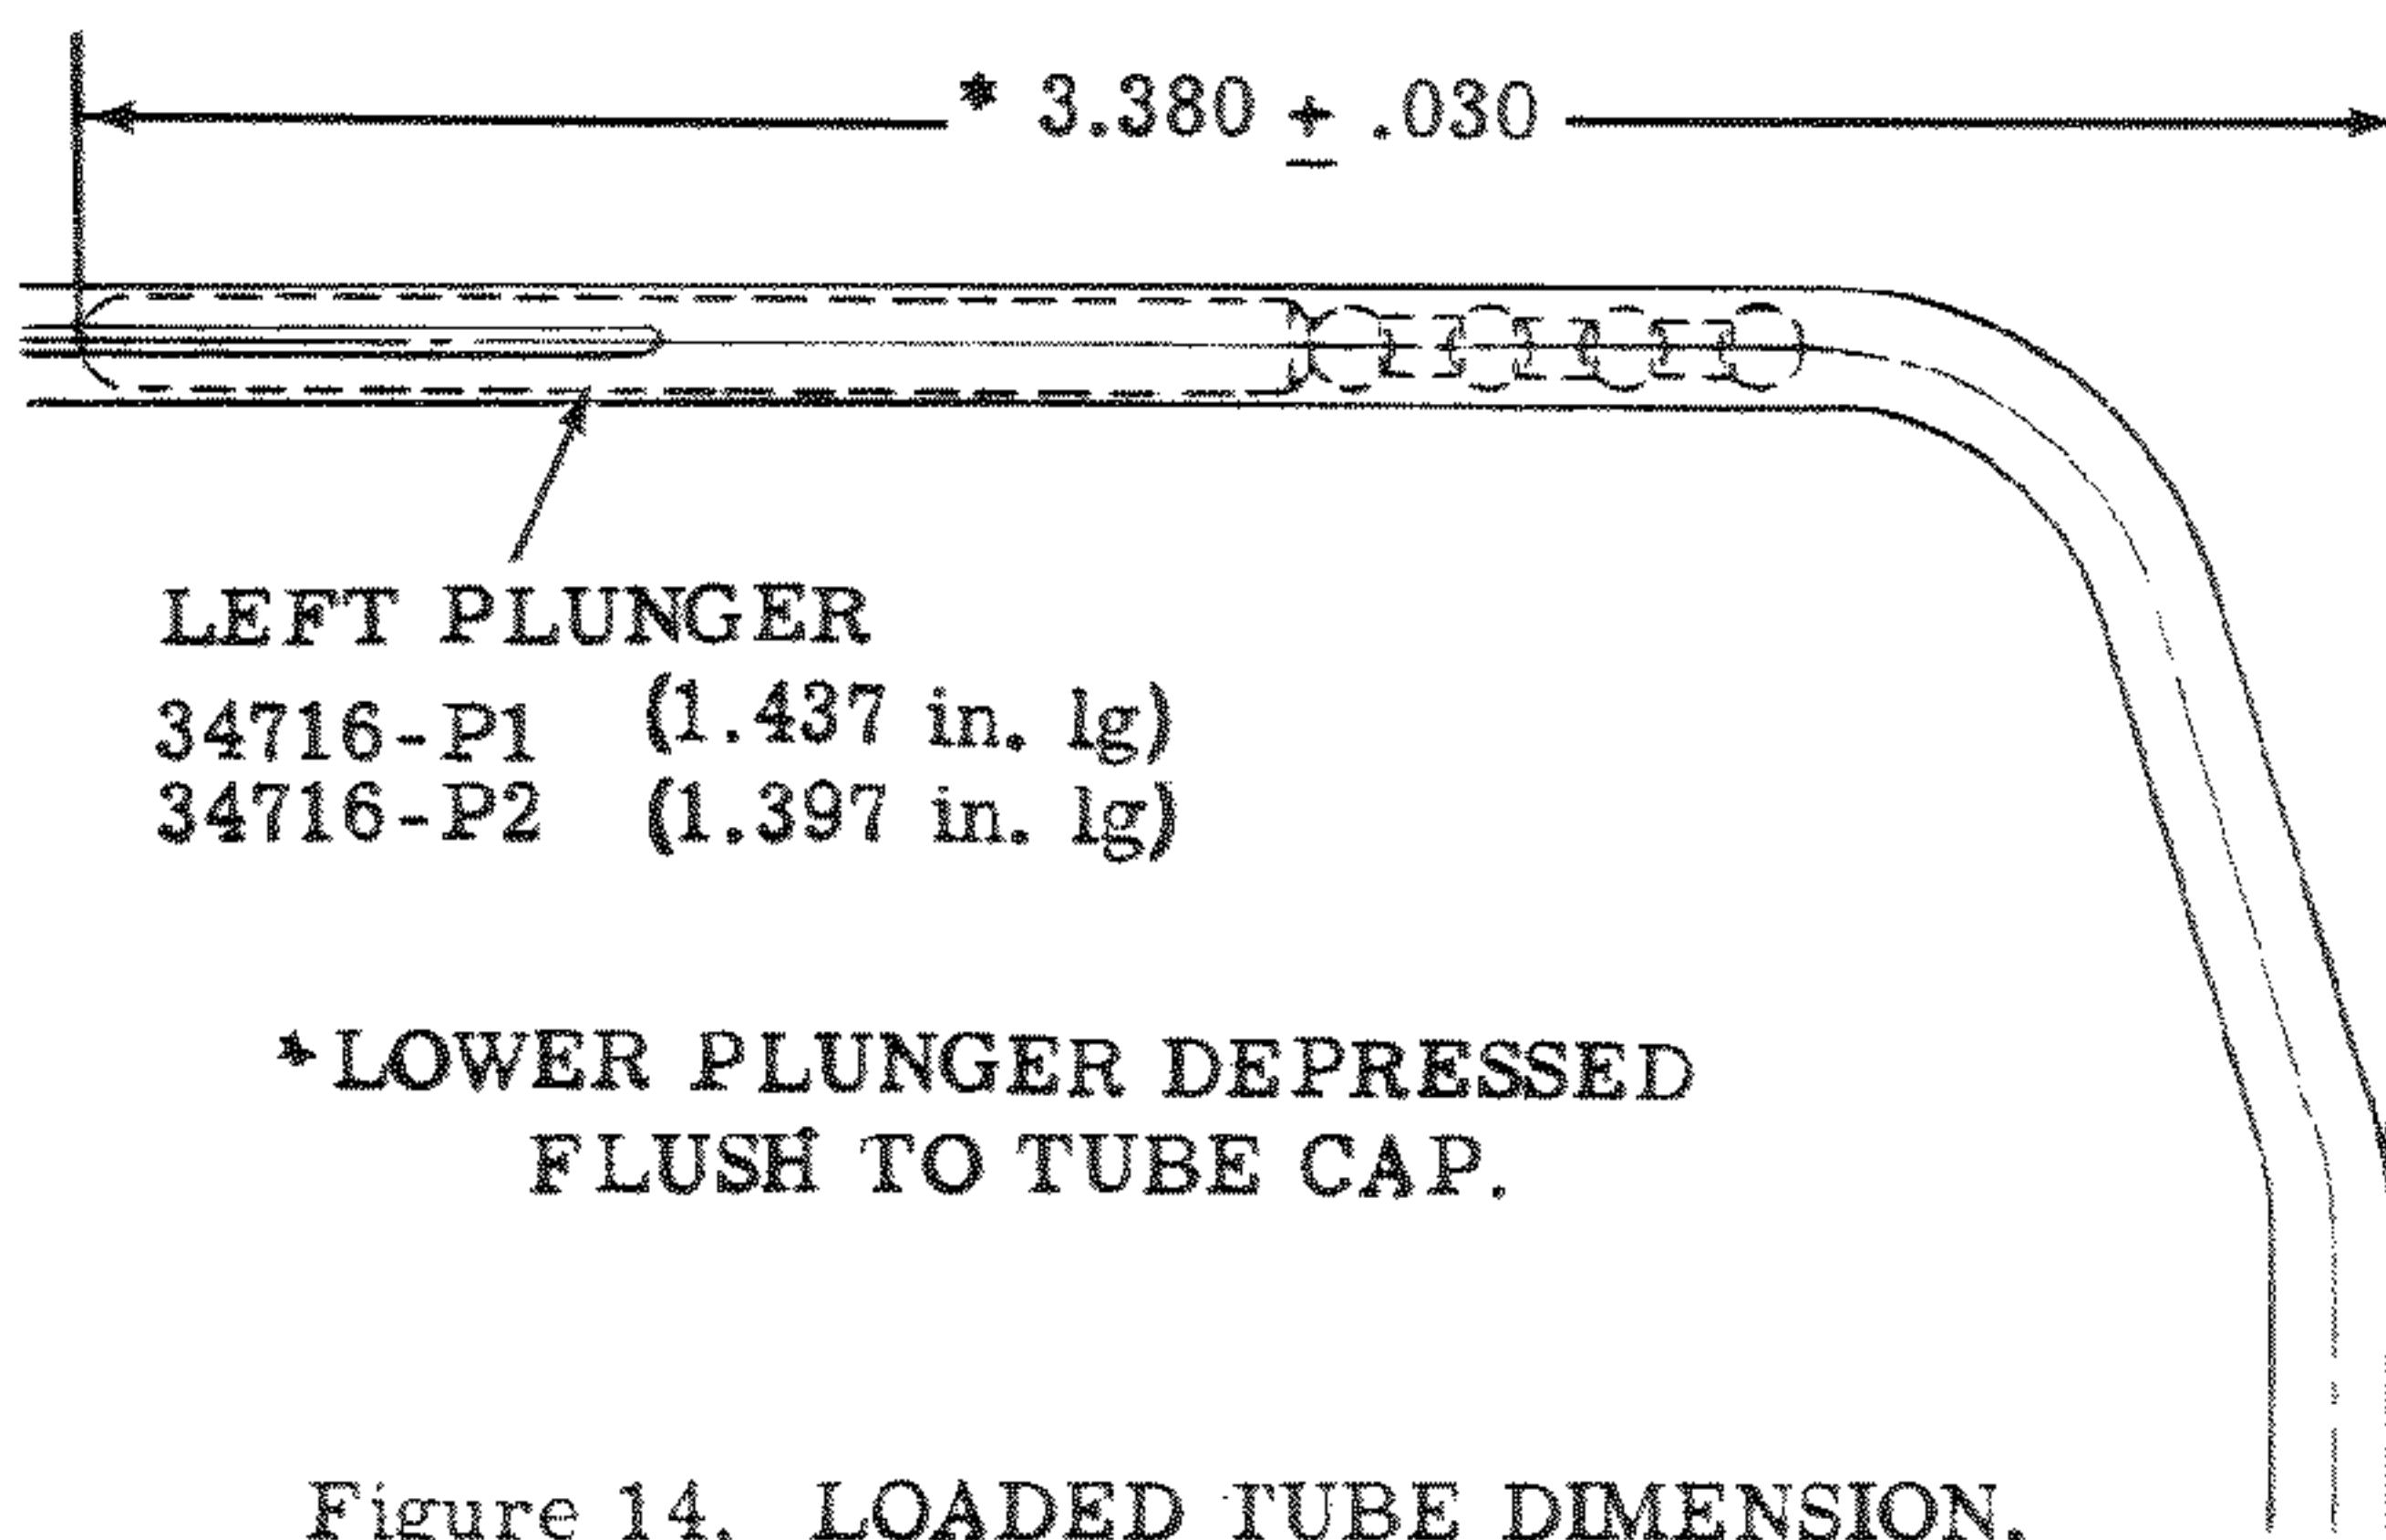

Figure 14. LOADED TUBE DIMENSION.
**WARNING:** Do not tip the camera so that balls and/or spacers will fall out of tube. There are approximately 71 or 72 balls, or 44 balls, and 42 spacers alternating with a ball at lower end. The tube must be removed to measure the correct loaded dimension (figure 14). Vary components by adding one ball or removing one spacer or by selective use of left plunger or any combination of these three variations.